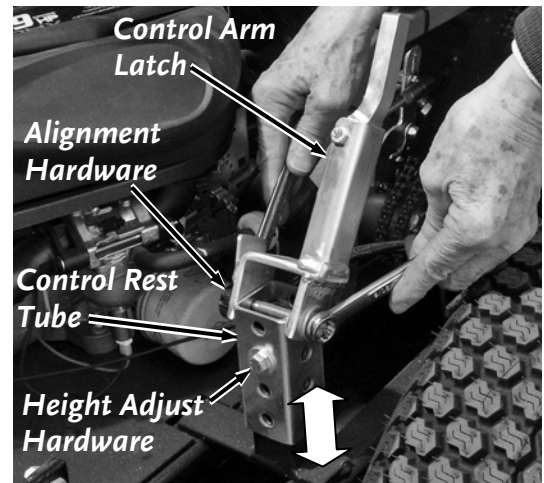

Figure 29
2. Remove the Nut and Bolt in the Front Control Rest Tube (**Figure 29**).